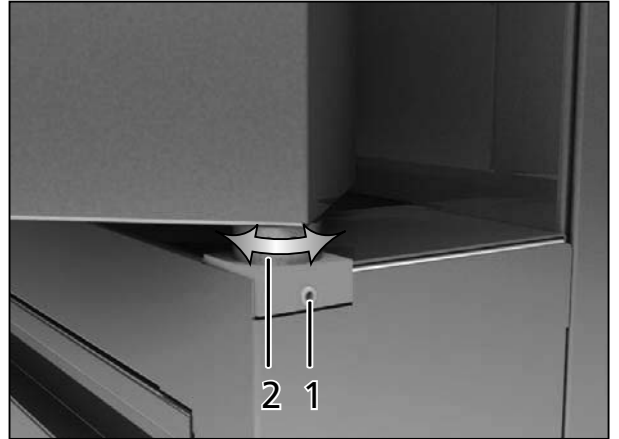

Fig. 38 Adjusting the door
1. Undo the grub screw with a Torx-TX8 tool (Fig. 38). This is fixed with locking paint and can be undone with a jolt.
2. Adjust door by turning the eccentric tappet (2) with a screwdriver.